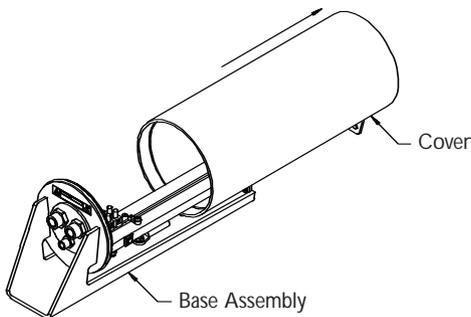
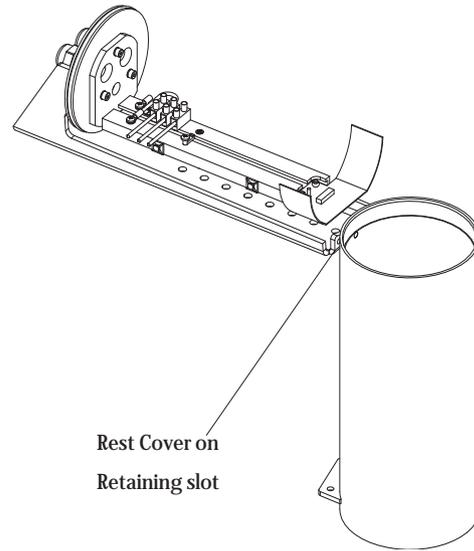

FIGURE 2 Removing the Cover
FIGURE 3 Accessing the Cradle/Rail Assembly
3. Remove the cover from the base assembly by grasping the cover and gently pulling forward. See FIGURE 2 Removing the Cover. Rest the cover onto the retaining slot to access the cradle area. See FIGURE 3